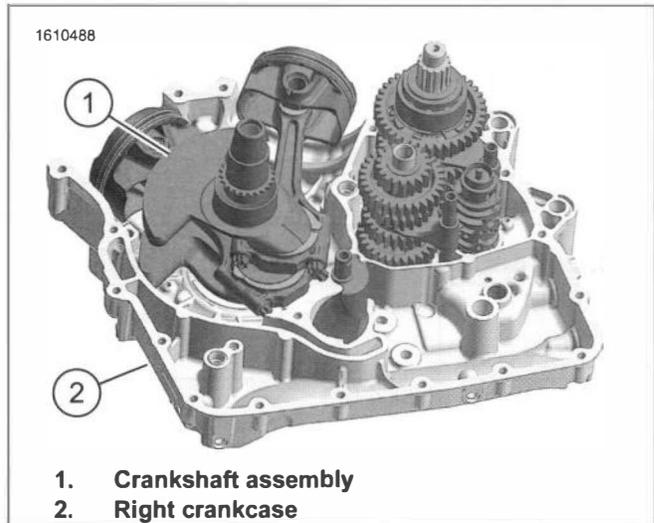

Figure 4-109. Crankshaft
- b. See Figure 4-109. Remove crankshaft assembly (1) from right crankcase (2).
- b. See Figure 4-109. Install crankshaft assembly (1) into right crankcase (2).